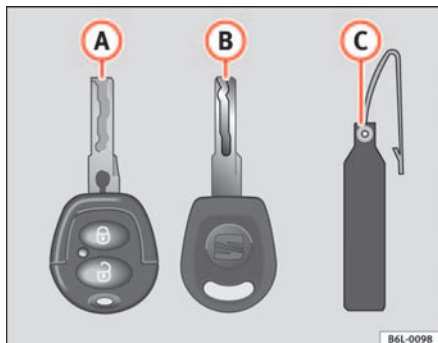

Fig. 46 Set of keys
- A key with a remote control ⇒ fig. 46 **A**
Spare keys cannot be issued without the key number on the key tab ⇒ fig. 46 **B**. Therefore: